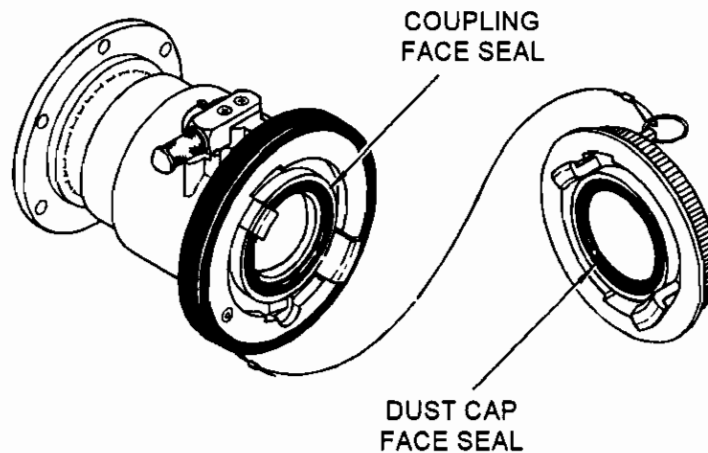

Figure 3-1. Face Seal and Dust Cap Seal
3.3 REPLACE UNISEX COUPLING FACE SEAL/DUST CAP SEAL. (Refer to figure 3-1.)